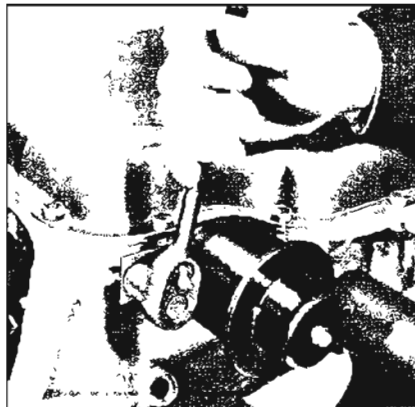

Figure 5-727
4. Install the modulator retainer and attaching bolt. Torque bolt to 15-20 ft. lbs. See Figure 5-727.